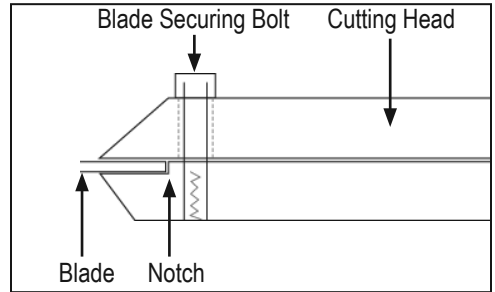

FIG. 4
2. Insert blade into the cutting head to back of notch (Figure 4); tighten firmly.